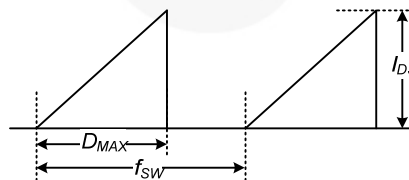

Figure 4. Repetitive Peak Switching Current
- Repetitive peak switching current when the inductive load is assumed: limited by maximum duty ($D_{MAX}=0.73$) and junction temperature (see Figure 4).